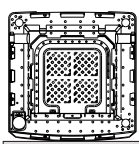

Figure 1
1. Lean the machine down gently with the front surface facing the ground, as indicated in Figure 1.